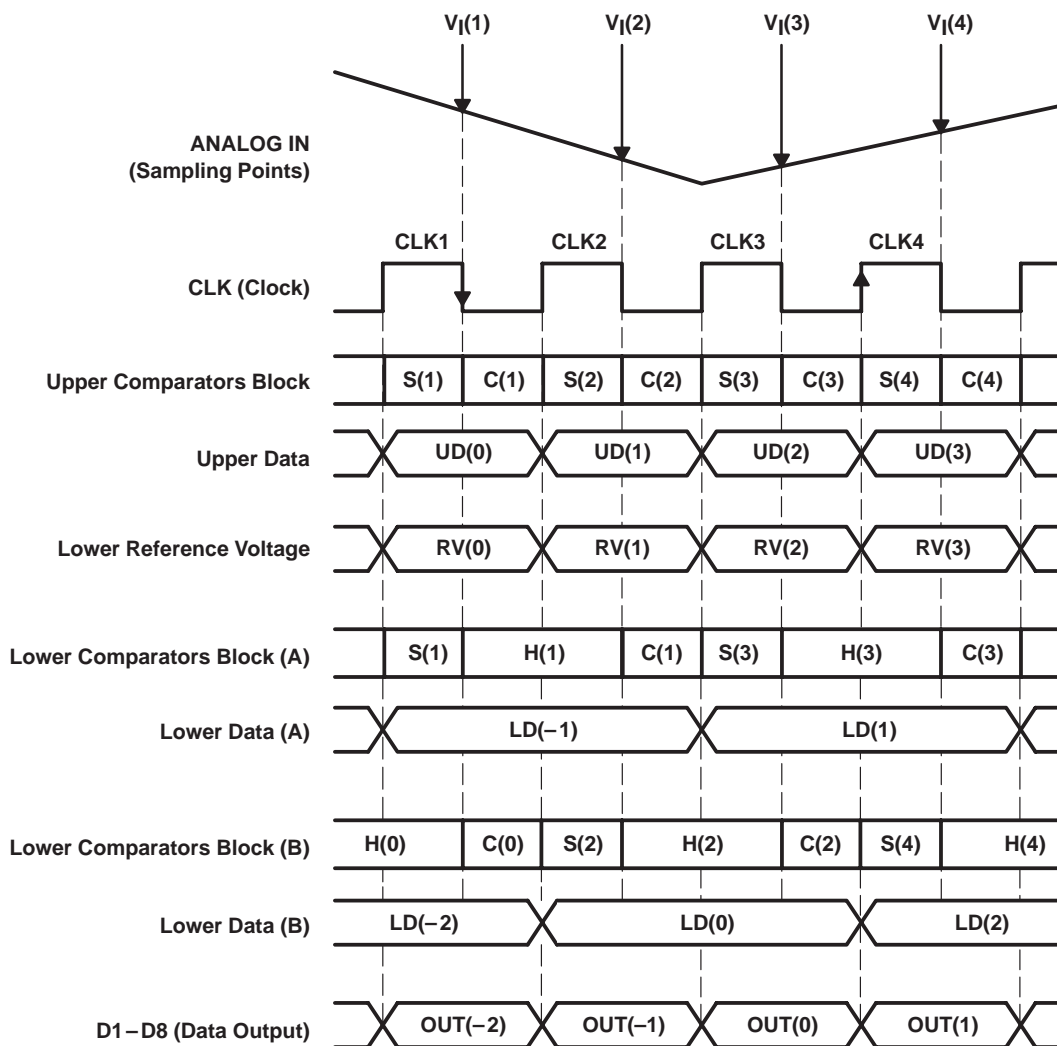

Figure 19. Internal Functional Timing Diagram
As shown in Figure 19, input voltage  $V_I(1)$  is sampled with the falling edge of CLK1 to the upper comparators block and the lower comparators block(A), S(1). The upper comparators block finalizes the upper data UD(1) with the rising edge of CLK2, and simultaneously, the lower reference voltage generates the voltage RV(1) corresponding to the upper data. The lower comparators block (A) finalizes the lower data LD(1) with the rising edge of CLK3. UD(1) and LD(1) are combined and output as OUT(1) with the rising edge of CLK4. According to the above internal operation described, output data is delayed 2.5 clocks from the analog input voltage sampling point.
The MSB comparator block converts on the falling edge of each applied clock cycle. The LSB comparator blocks CB-A and CB-B convert on the falling edges of the first and second following clock cycles, respectively. The timing diagram of the conversion algorithm is shown in Figure 19.